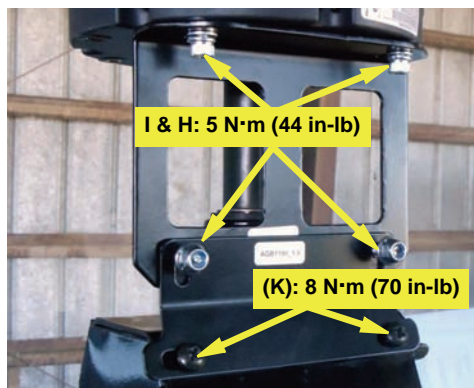

Figure 3g: Brackets tightened to correct torque
- g. Using the slotted holes in the brackets, arrange and align the brackets as required then tighten/torque the fasteners in the order self-tapping screws (or **K**) then **I**, then **H**. Torque **K** (not shown) to **8 N·m (70 in-lb)** and **I** and **H** to **5 N·m (44 in-lb)** (Figure 3g).